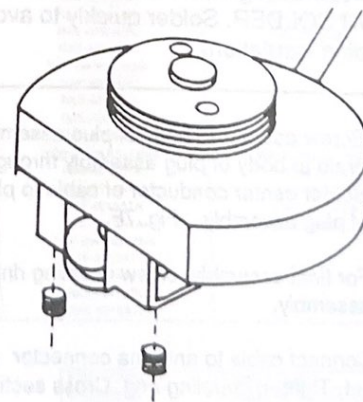

FIG. 5
1. Trunk lid mount may be placed at the center of trunk lid near rear window, or to the side, preventing the antenna from hitting rear window when raising trunk lid. Be sure the coaxial cable is not pinched under the mount clamp bracket. Figure 5.